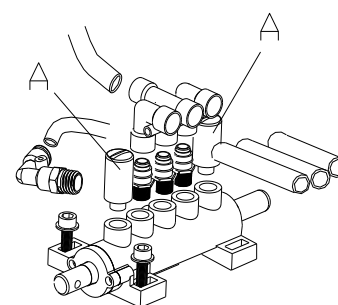

Fig 13
2. Loosen the valve Muffler (A) which belong to Jaws open and close Pedal and Bead Breaker Pedal; (Fig 13)
3. Clean the mufflers with compressed air, please replace it referring to the spare parts list if it is damaged. (Fig 13)